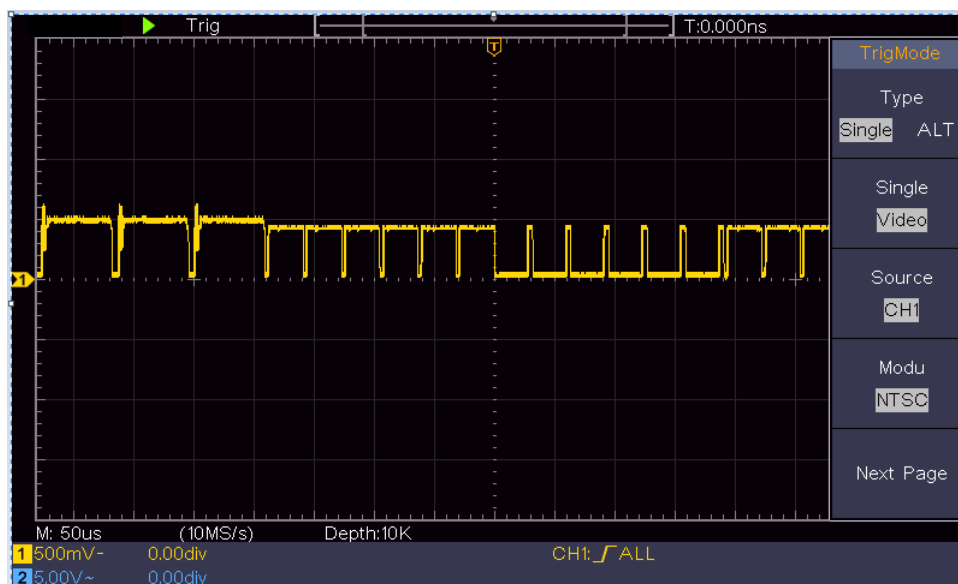

Figure 6-7 Waveform Captured from Video Field Trigger
- (1) Push the **Trigger Menu** button to display the right menu.
- (2) In the right menu, select **Type** as **Single**.
- (3) In the right menu, select **Single** as **Video**.
- (4) In the right menu, select **Source** as **CH1**.
- (5) In the right menu, select **Modu** as **NTSC**.
- (6) In the right menu, press **Next Page**, select **Sync** as **Field**.
- (7) Turn the **Vertical Scale**, **Vertical Position** and **Horizontal Scale** rotary controls to obtain a proper waveform display (see *Figure 6-7*).